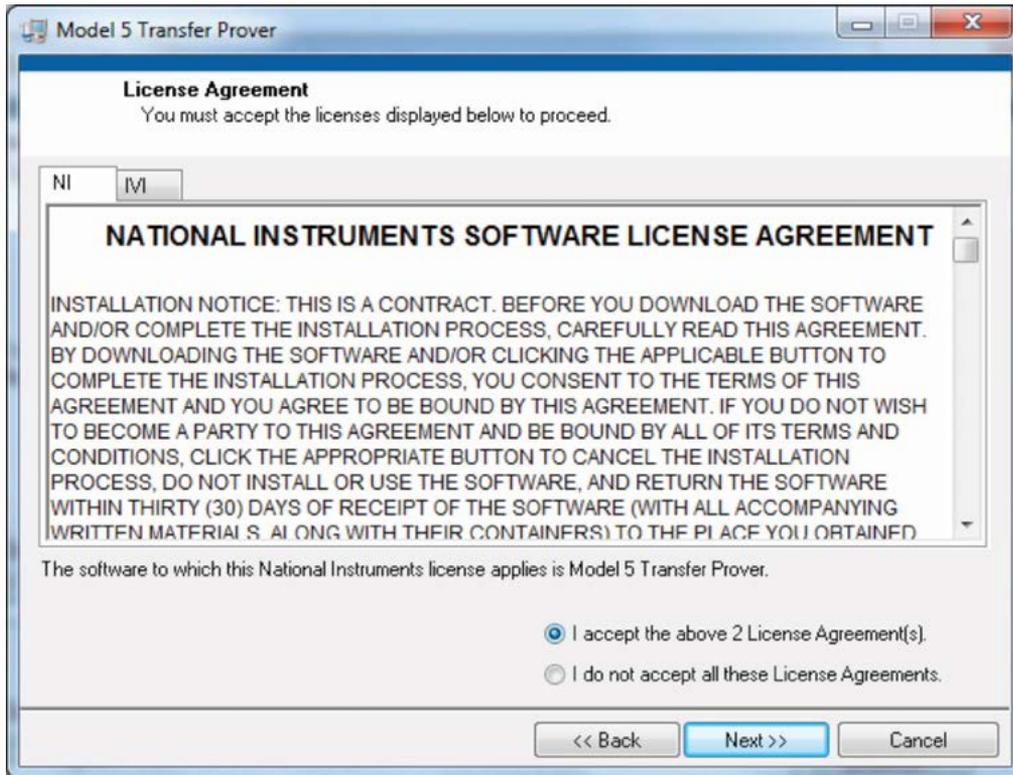

Figure 35: License Agreement Acceptance
5. A prompt asking for acceptance of the Licensing Agreement for the associated software will appear. Click on the "I accept" button and select "NEXT" to continue the installation as shown in **Figure 35**.